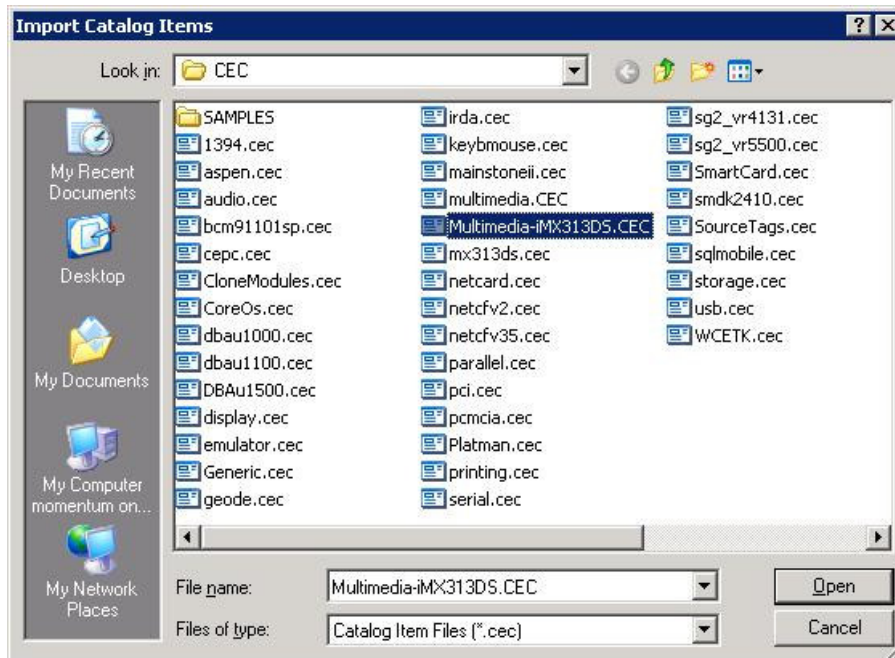

Figure 2-1 Multimedia Catalog
3. The Import Catalog Items window is displayed (Figure 2-1).